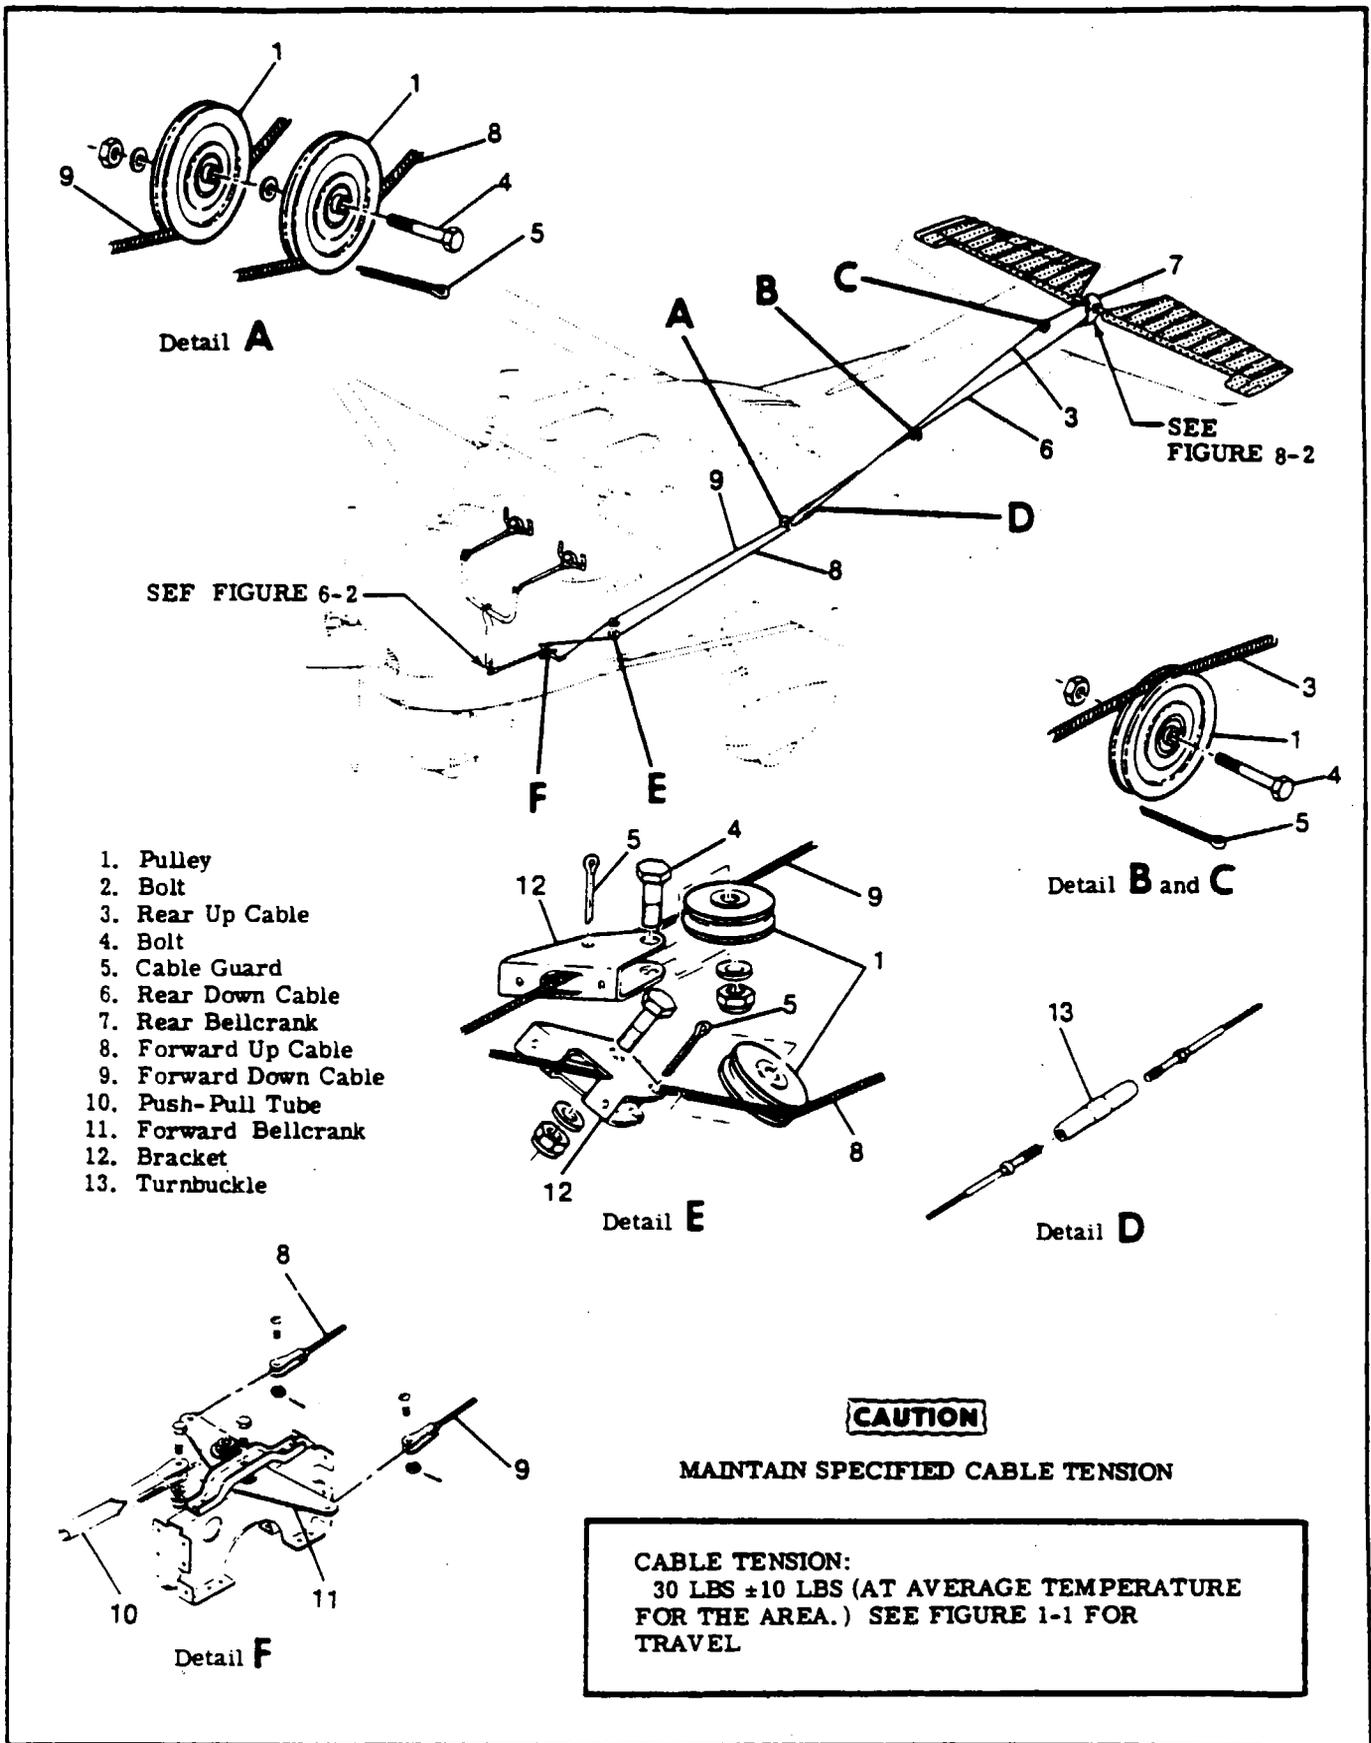

Figure 8-1. Elevator Control System
Cables slack.	Adjust to tension specified in figure 8-1.
8-8. FORWARD. (See figure 8-1.)
- b. Relieve cable tension at turnbuckles (index 13, figure 8-1) and disconnect cables from rear bellcrank (9).
- c. Remove bolts (6) securing elevators to bellcrank.
- d. Remove bellcrank pivot bolt (8) and slide bellcrank from between tube assemblies (7).
8-12. CABLES AND PULLEYS. (See figure 8-1.)
8-14. RIGGING. (See figure 8-1.)